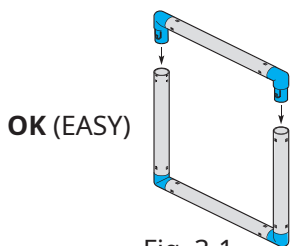
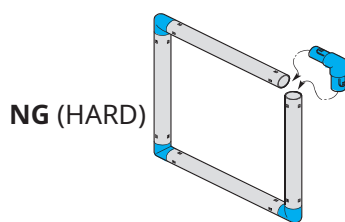

Fig. 3-1
Fig. 3-2
- (2) Finish the assembly of both connectors with the tube in between. Then insert the connectors into two separate tubes to complete a panel.(Fig. 3-1) Do not assemble the tubes and connectors one by one. (Fig. 3-2)